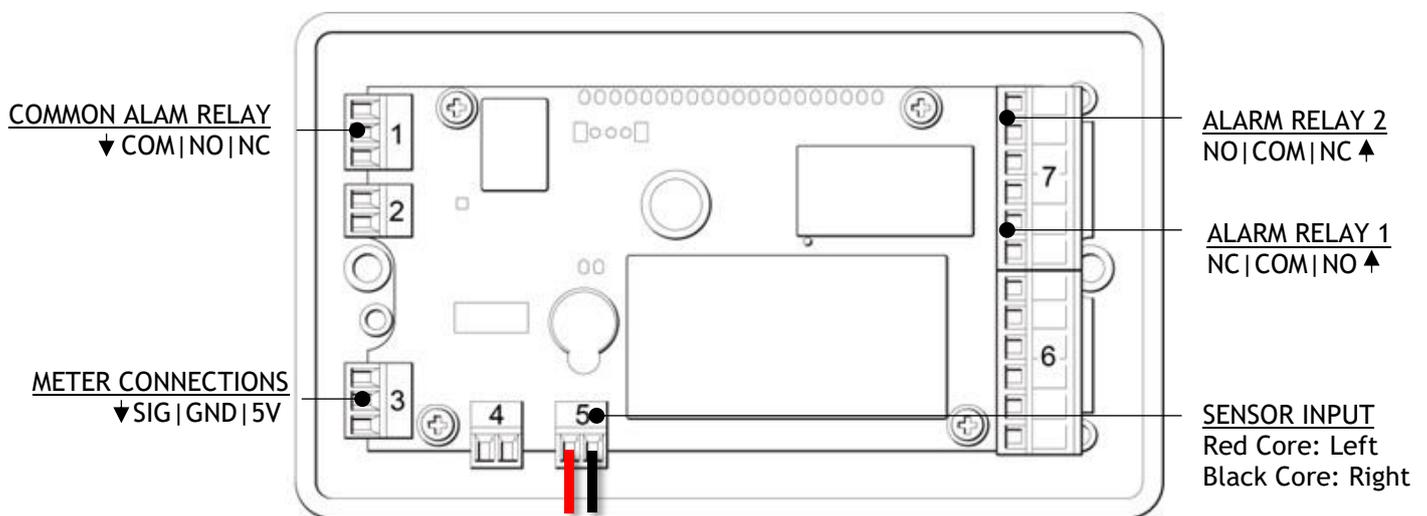

Figure 6: AquaGuard Dual Rear Panel Showing Sensor / Relay Connections
1. Ensure that the unit is powered OFF. Connect the **leader cable** into the **sensor input terminal** on the unit. Do not connect the green or white cores (Figure 6).
1. Ensure that the unit is powered OFF. Connect the **leader cable** into the **sensor input terminal** on the unit. Do not connect the green or white cores (**Figure 6**).
1. Ensure that the unit is powered OFF. Refer to **Figure 6** to select the correct relay for the application.